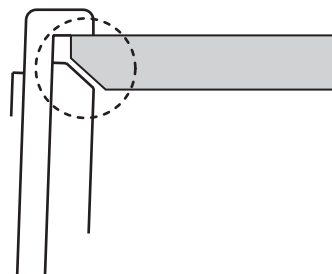

Fig. 1.10
4. Apply a continuous generous bead of good quality silicone onto the rim around the upper perimeter of the sink (**Fig. 1.5**) or (**Fig. 1.10**).
- Apply silicone sealant (not supplied) to the underside of the sink rim **(Fig. 1.10)**.